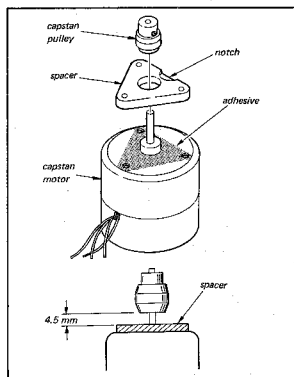

Fig. 4-19.
5. Install the Capstan Pulley on the upper motor shaft. Space the bottom edge of the pulley 4.5 mm from the Spacer. See Fig. 4-19.